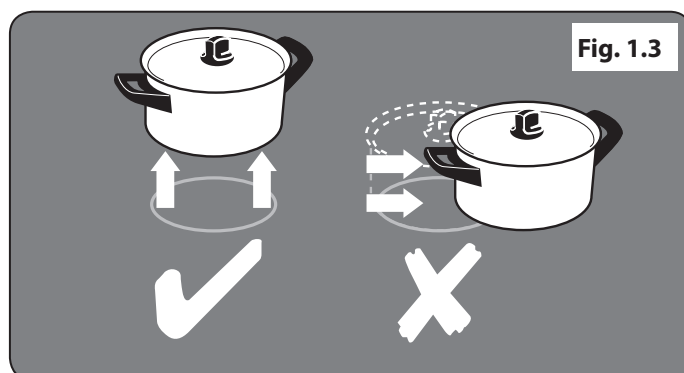

Fig. 1.3
- Always **LIFT** pans off the hob. Sliding pans may cause marks and scratches (**Fig. 1.3**).